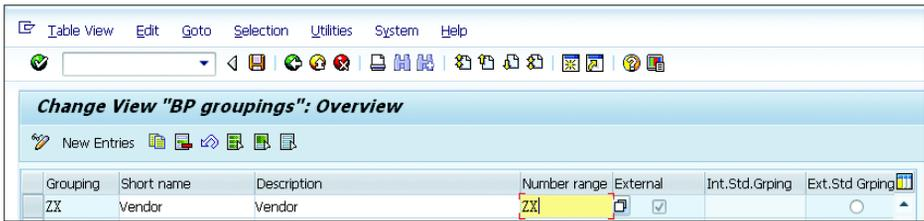

Figure 2.59 Vendor Business Partner Grouping
4. Create a business partner grouping for vendors. Ensure that it's an external grouping and that the number range is the same as in SAP ERP (see Figure 2.59).